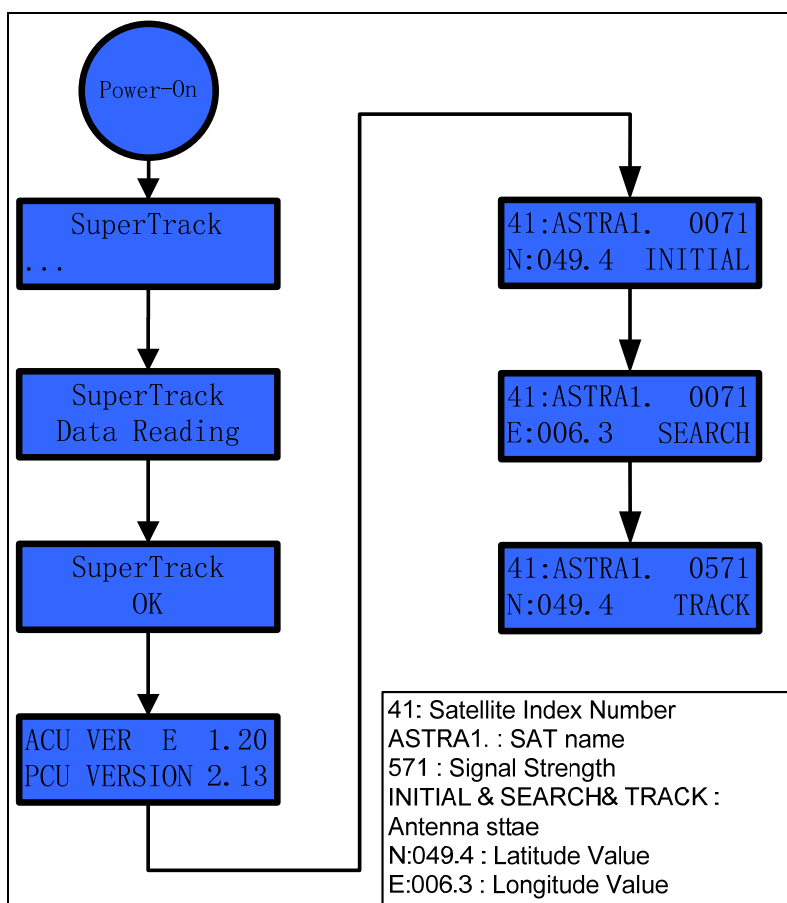

Figure 3-4 Display Flow on the ACU LCD
If you turn on the power switch of the antenna control unit, you can view the steps shown in Figure 3-4 below.
**LA:N 49 LO:E 6(GPS data: Tracking):** In the case of the internal magnetic mode, the ACU displays the GPS data on the LCD when the antenna is tracking the satellite. If the PCU compass mode is gyro, the ACU displays the ship's heading and GPS data on the LCD when the antenna is tracking the satellite. The display of the GPS data alternates, as shown in Fig 3-4 below.